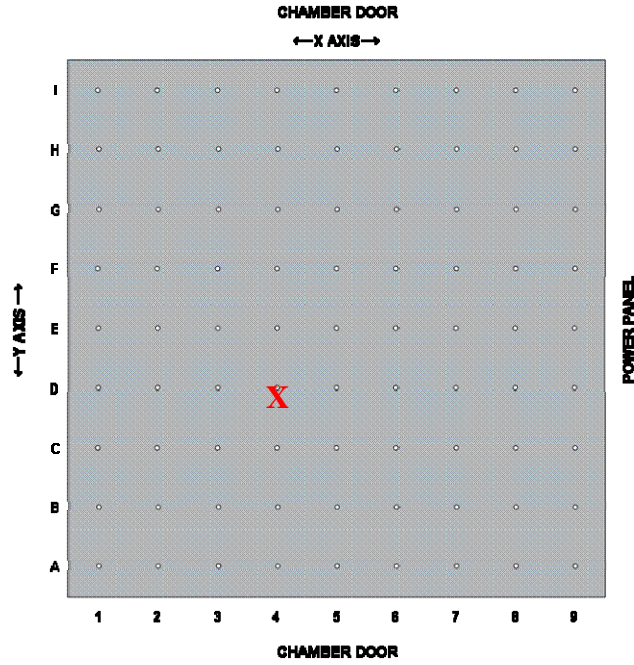

Figure 2 - 36inch x 36 inch Table layout- place thermocouple at position D4
- 36inch x 36inch table: At table bolt hole position D4 (**Figure 2**)